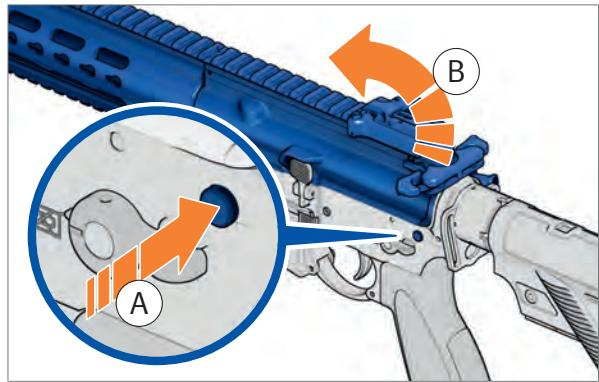

Fig. 91: Push in rear locking pin
2. Push rear locking pin in to the right and pull out as far as disassembly position (Fig. 91).
3. Fold upper receiver upwards (Fig. 91).